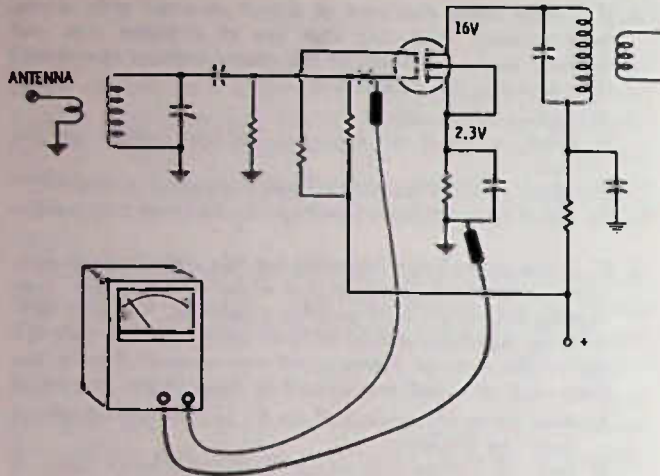

Fig. 16-20. Circuit for Question 12.
12. In Fig. 16-20, after disconnecting one gate from its circuit of this dual-gate MOSFET amplifier, it was found that the "floating" gate had a voltage on it of over 0.5 volt. This would indicate